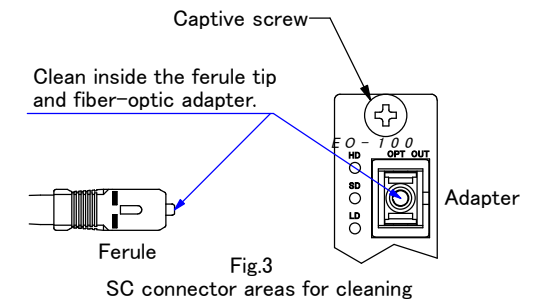

Fig.3
5. Be sure to clean the ferrule tip of the plug and the interior of the plug-in module's adapter as shown in Fig.3. If the fiber-optic connector becomes dirty, light loss could increase, possibly degrading the light communication quality.
7. Connect the AC cord to AC inlet(5) or DC cord to DC inlet(6).
8. Set the power switch(2) to the ON position to supply the power to the plug-in module. Power LED(3) lights green.
- ※ When the battery warning LED (4) flashes red during DC power operation, replace the battery immediately.